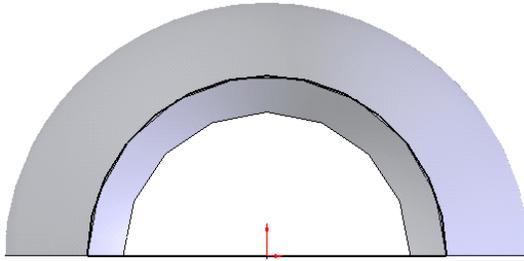

**Figure 15-119** Sections and guide curves to create a lofted surface
- a. First, you need to create the base surface. The base surface is created by lofting the open sections along the guide curves, refer to Figures 15-119 and 15-120.
2. Create three planes at an offset distance from the **Right** plane, refer to Figure 15-119.
3. Next you need to create the sections and the guide curves to create a lofted surface as shown in Figure 15-119.